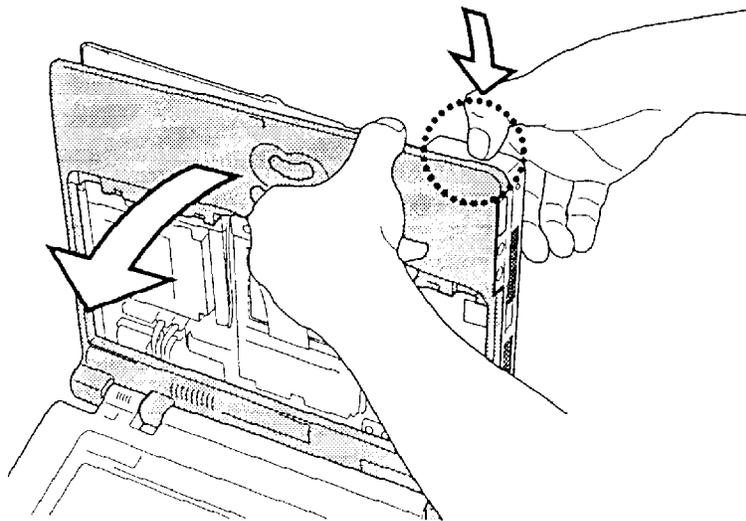

Figure 4-17 Separating the top cover
7. Unlatch **nine latches** securing the **top cover** to the base cover (figure 4-17).